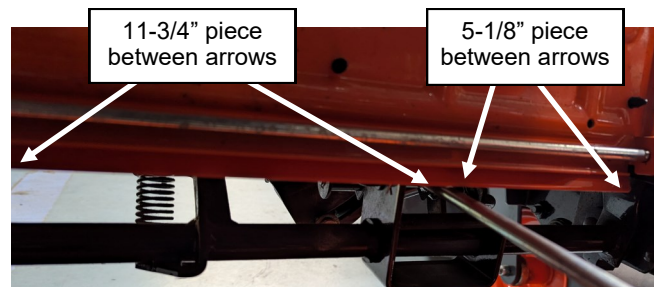

Fig. 10.8 (Bottom of floor pan door)
- 10.8 Lift up the floor pan door and place the 11-3/4" and 5-1/8" pieces of bulb rubber on the bottom edge of the door avoiding the metal rod as shown in figure 10.8.